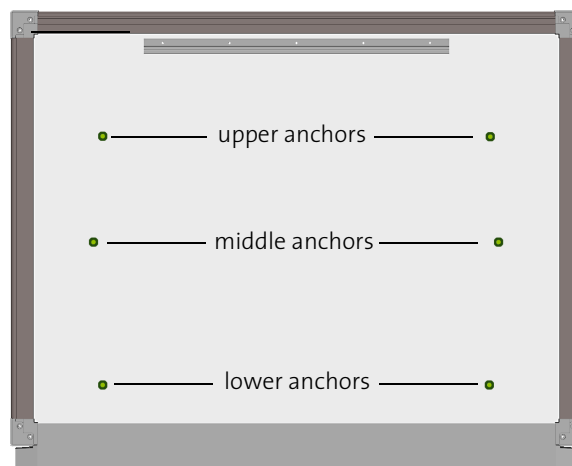

Figure 1-6 Back of SMART Board
1. Partially thread two $\frac{3}{4}$ " screws into the two upper anchors on the back of the SMART Board, leaving approximately one-eighth of an inch to accommodate the width of the SMART Board brackets (Figure 1-6).